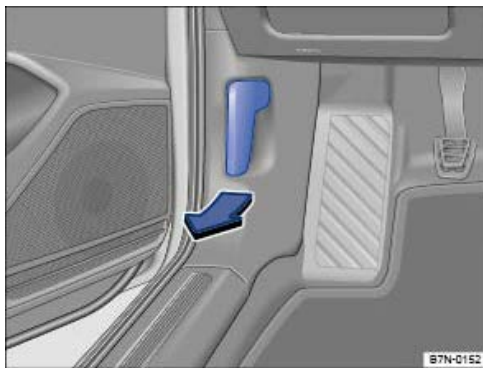

Fig. 253 In the footwell on the driver's side: release lever for the bonnet.
- Open the driver door and pull the release lever in the direction of the arrow → Fig. 253. The bonnet is released from its lock by a spring mechanism → ⚠.